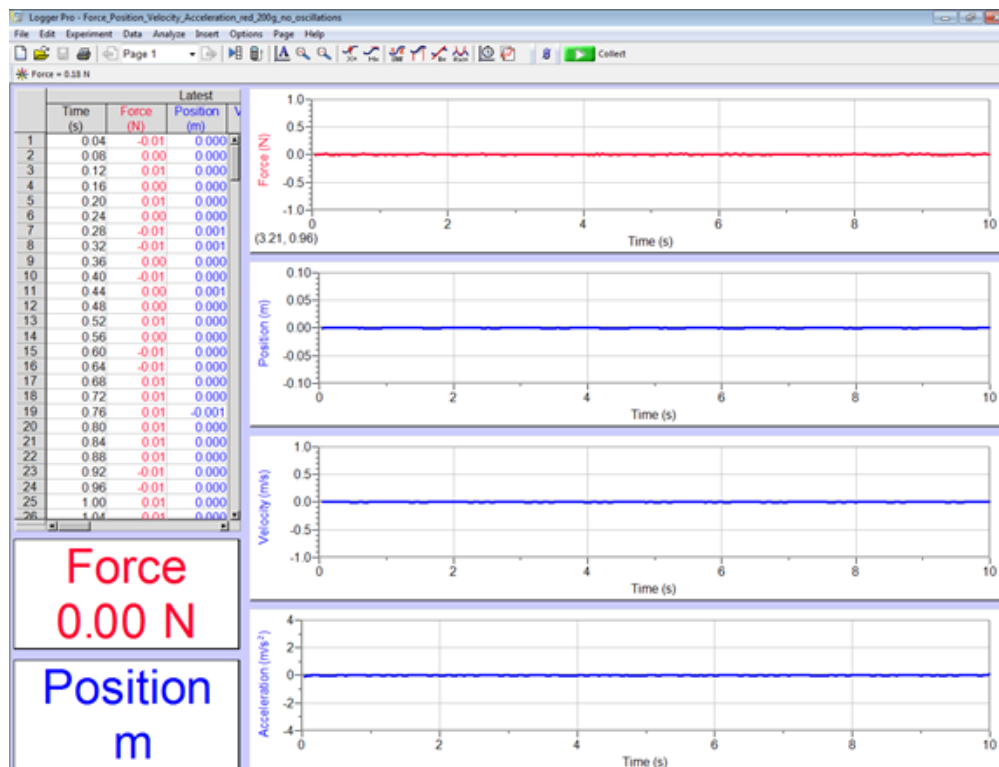

Figure 4: While the system is still at equilibrium, the baseline data can be acquired to ensure that all values at equilibrium are indeed zeroed.
6. Without any motion, collect a baseline set of data (see Figure 4).